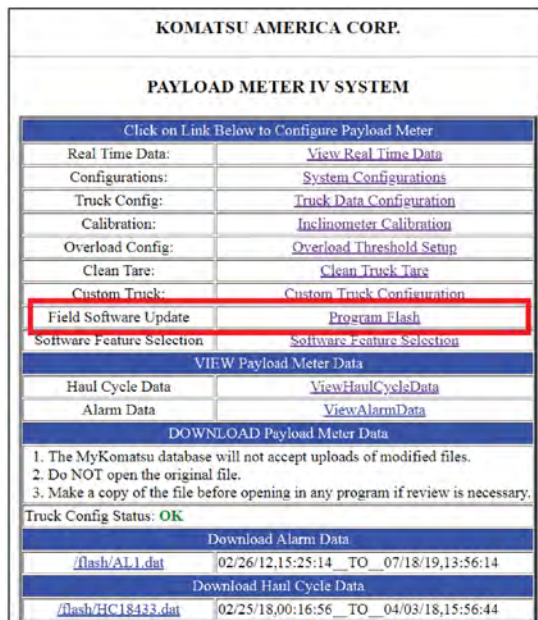

FIGURE 20-5. PLM IV HOME PAGE
6. On the home page, click on the "Program Flash" link. See Figure 20-5.